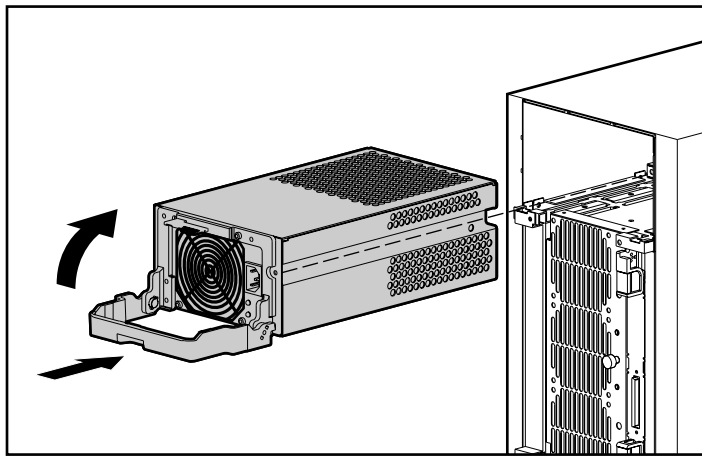

Figure 4-9. Installing the power supply
4. Pivot the handle closed until it snaps into place. This will secure the power supply in the chassis. See Figure 4-9.